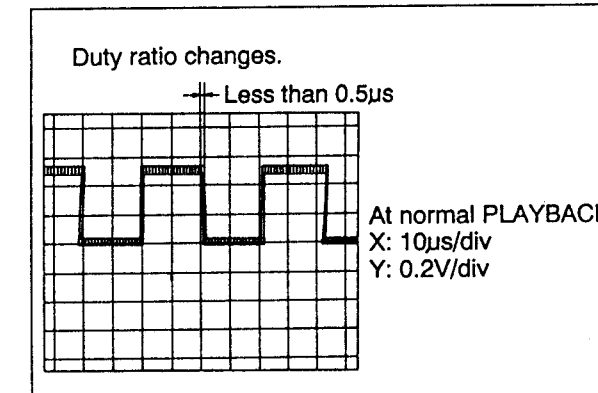

Fig. 1
2. Load a **DCC music tape (RFKZ0034)** into the unit under test and put the unit in **PLAY mode**. When the capstan servo is locked, a **47 Hz square wave with a duty ratio variation of less than 0.5μs** will be observed on the scope (see Fig. 1). Unlock the servo and verify that the muting function is active.